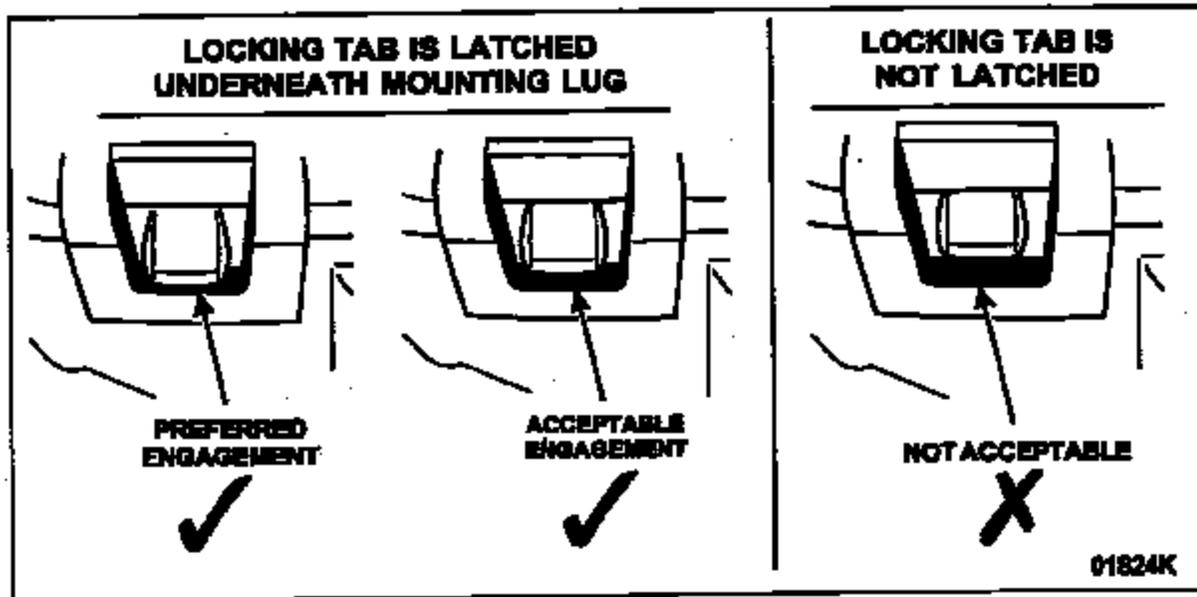

FIGURE 11
3. **CAUTION:** If any of the locking tabs cannot be correctly latched as shown in Figure 11, replace the complete motor assembly. **DO NOT** attempt to remove the cover and reinstall it.